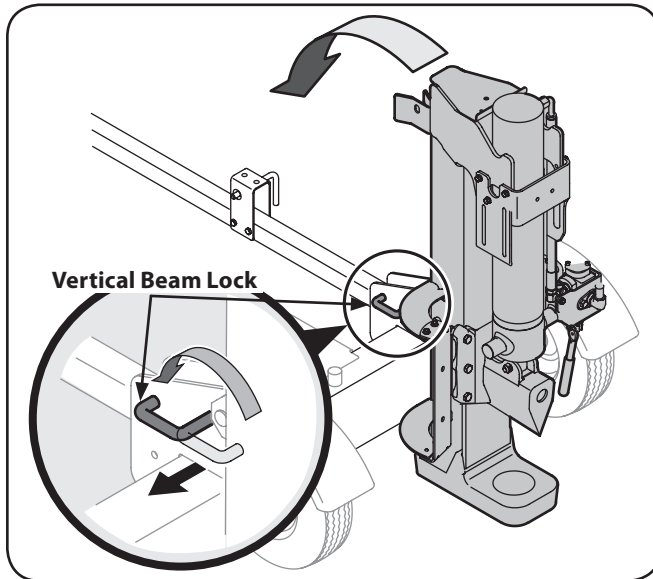

Figure 3-3
- Pull out the vertical beam lock, rotate it back, and pivot the beam to the horizontal position until it locks being sure to avoid any possible pinch points. See Fig. 3-3.